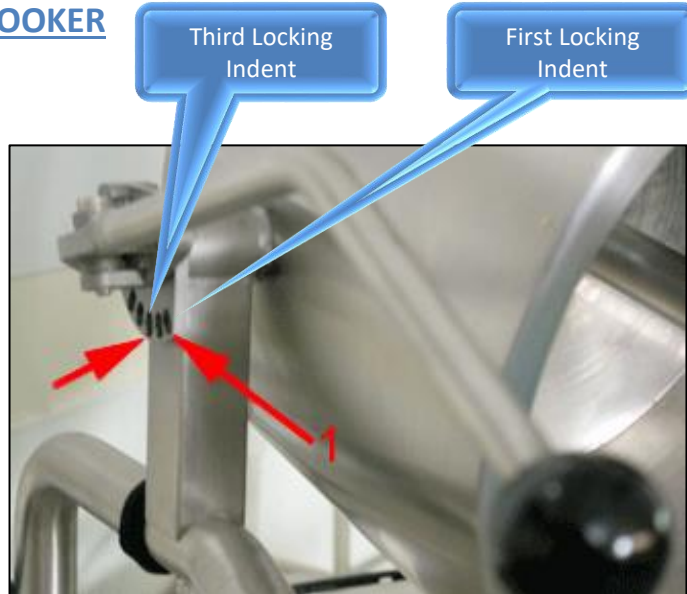

Figure 90
4. Tilting the cooker past the third locking indent, Fig. 90, automatically turns OFF the agitator and heat as a safety precaution.